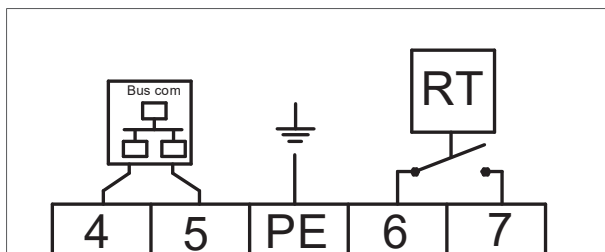

Figure 9 - Bus communication connection
1. Connect the two control wires to terminals 4 and 5 (see figure 9 or the electrical wiring diagram in §11).